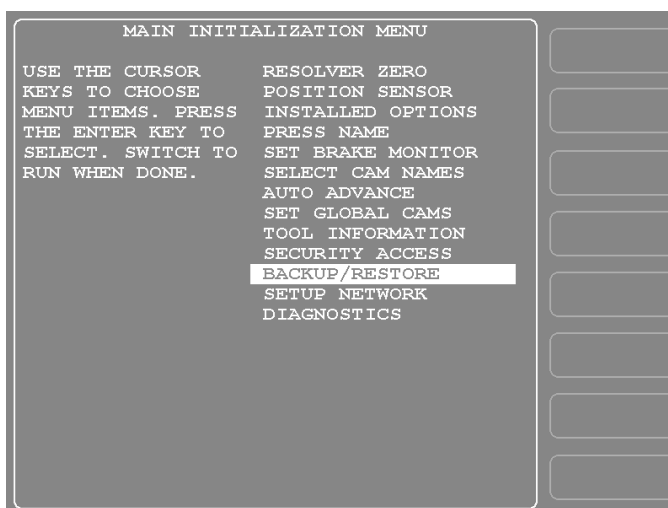

Figure 2. Main Initialization Menu with the BACKUP/RESTORE Item Highlighted
2. On the Main Program Menu, press the **1** and **CLEAR** keys at the same time and hold them down for a few seconds until the Main Initialization Menu (see Figure 2) displays.